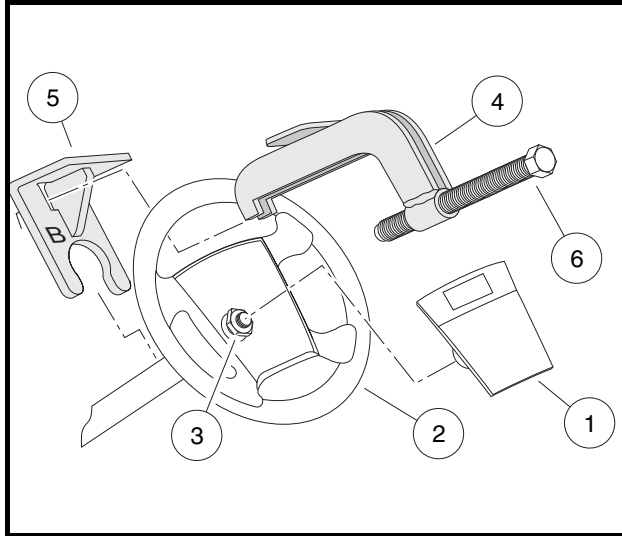

Figure 7-1 Steering Wheel Puller
- 5.1. Place the puller anvil (4) through the top opening of the steering wheel **(Figure 7-1, Page 7-2)**.
- 5.2. Insert the anvil feet through the two slots in the base plate (marked “B”) (5) as shown **(Figure 7-1, Page 7-2)**.